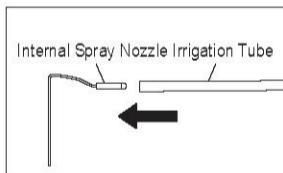

Fig. 7
- Connect the Irrigation Tube to the Internal Spray Nozzle firmly. (Fig.7)